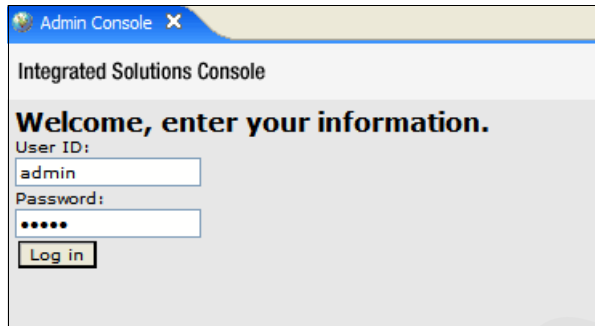

Figure 6-25 Logging in to the administrative console
4. In the login panel (Figure 6-25), type the User ID and Password. For our example, we use admin for both.